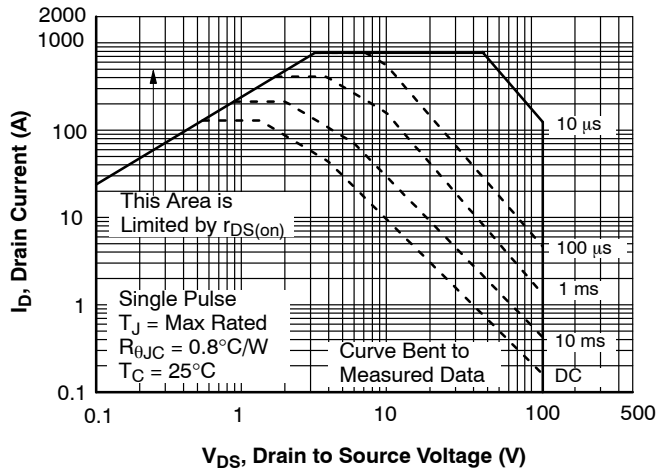

Figure 11. Forward Bias Safe Operating Area
- Pulsed Id please refer to Figure 11 SOA graph for more details.